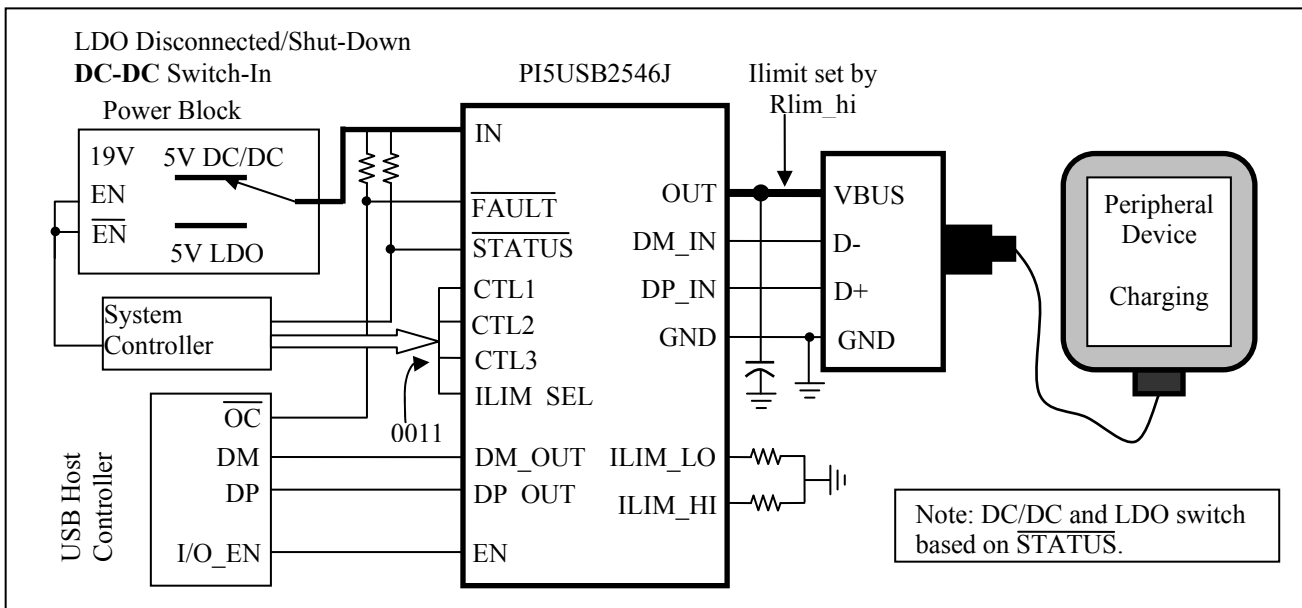

Figure 7. Case 1: System in S4/S5, Device Charging
Following Power Wake flow chart when a device is attached and draws >55mA of charging current the PI5USB2546J will hit its internal current limit. This will trigger the device to assert /STATUS (LO) and turn on the DC-DC converter and turn off the LDO. PI5USB2546J will discharge OUT for >2s (typ.) to allow the main power supply to turn on. After the discharge the device will turn back on with current limit set by ILIM_HI (Case 1, Figure 7)